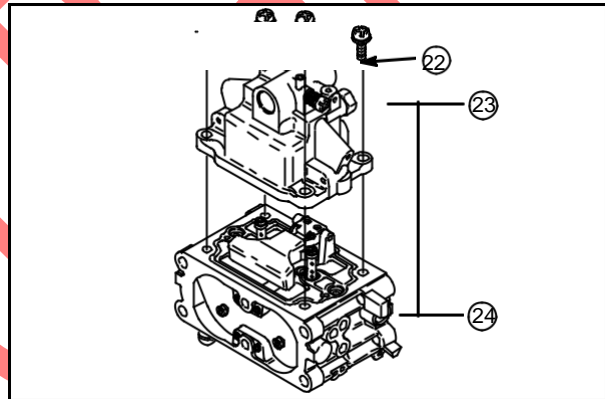

Fig. 75
Assemble lower body with main jet plugs (23) facing throttle shaft side (24) of carburetor. Make sure gasket remains in position, **Fig. 75**. Tighten screws (22) securely.